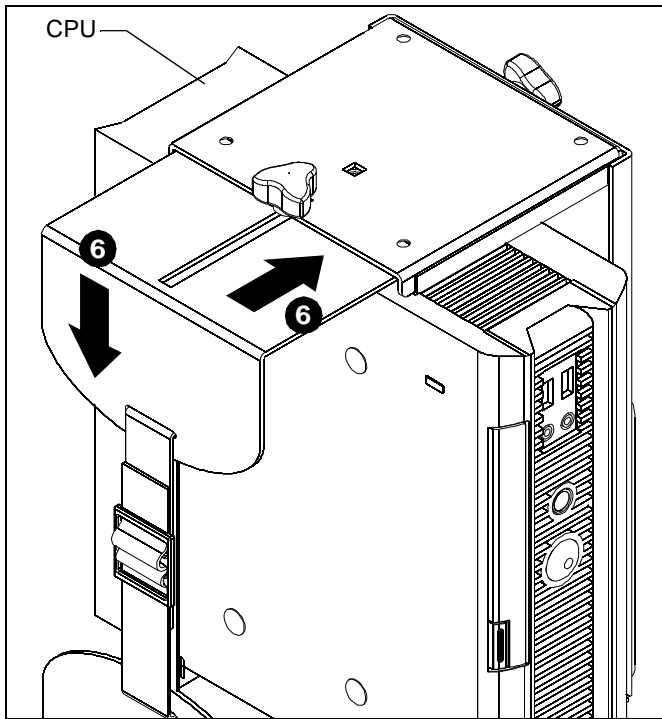

Figure 5
6. Set CPU within mount (D). (See Figure 5)
- Use adjustment knobs to compress mount around CPU until CPU is tightly secured within mount (D). (See Figure 5)